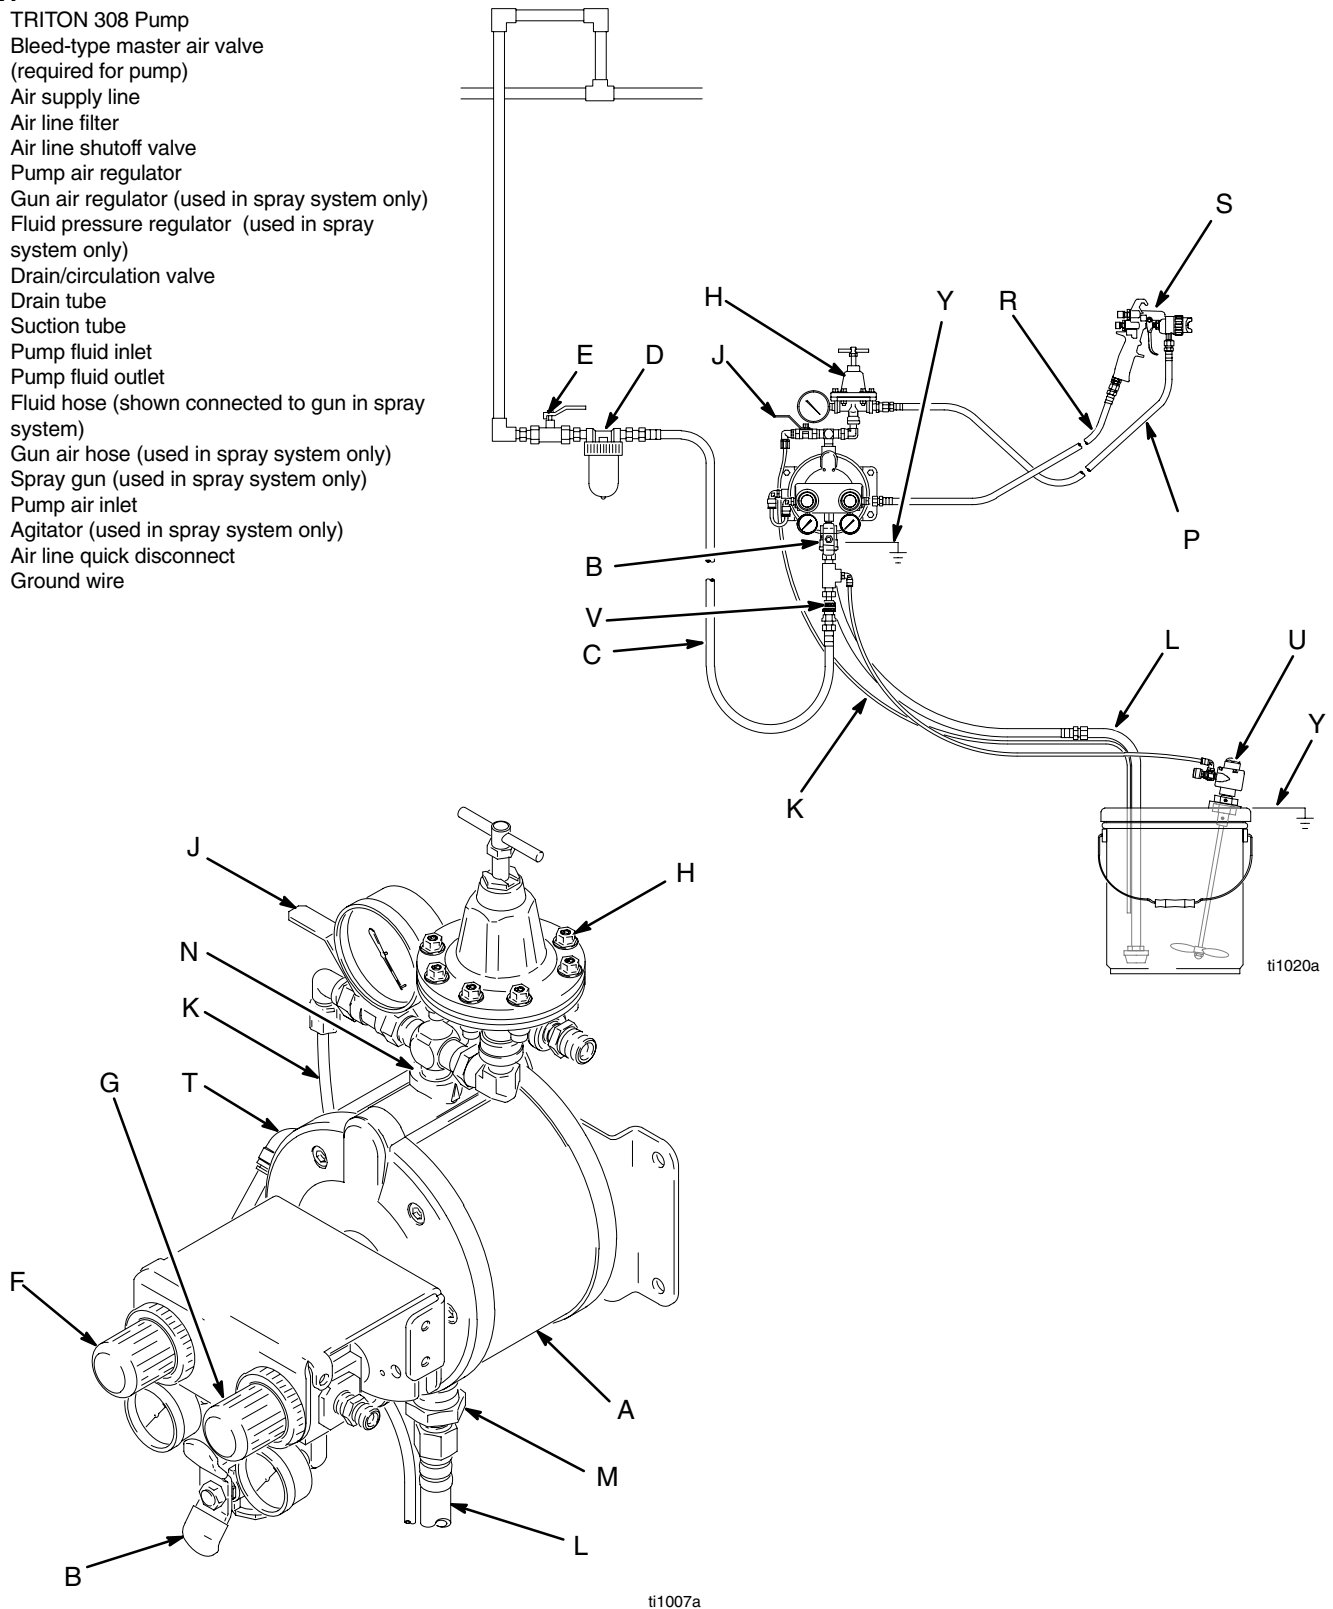

Fig. 2
- Fig. 2 shows a wall mounted HVLP spray application. It is only a guide for selecting and installing system components. Contact your Graco distributor for assistance in planning a system to suit your needs.
A bleed-type master air valve (B) is required in your system to relieve air trapped between this valve and the pump. See Fig. 2. Trapped air can cause the pump to cycle unexpectedly, which could result in serious injury, including splashing in the eyes or on the skin, injury from moving parts, or contamination from hazardous fluids.
1. Install the air line accessories as shown in Fig. 2. Mount these accessories on the wall or on a bracket. Be sure the air line supplying the accessories is electrically conductive.
- a. The fluid pressure can be controlled in two ways, either by controlling the air into the pump with the air regulator (F) or the fluid out of the pump with the fluid regulator (H).
- b. Locate a bleed-type master air valve (B) close to the pump, to relieve trapped air. See the **WARNING** at left. Locate another air valve (E) upstream from all air line accessories, to isolate them during cleaning and repair.
- c. Install an air line filter (D) to remove harmful contaminants such as dirt, moisture, and oil from the compressed air supply.
3. Install an electrically conductive, flexible air hose (C) between the accessories and the pump air inlet (T). Use a minimum 1/4" (6.3 mm) ID air hose. Screw an air line quick disconnect coupler (V) onto the end of the air hose and screw the mating fitting into the pump air inlet snugly. Do not connect the coupler to the fitting yet.
A fluid drain valve (J) is required in your system to relieve pressure in the hose if it is plugged. See Fig. 2. The drain valve reduces the risk of serious injury, including splashing in the eyes or on the skin, or contamination from hazardous fluids when relieving pressure. Install the valve close to the pump fluid outlet. To use the valve as a circulation valve, connect a tube (K) between the valve and pail.